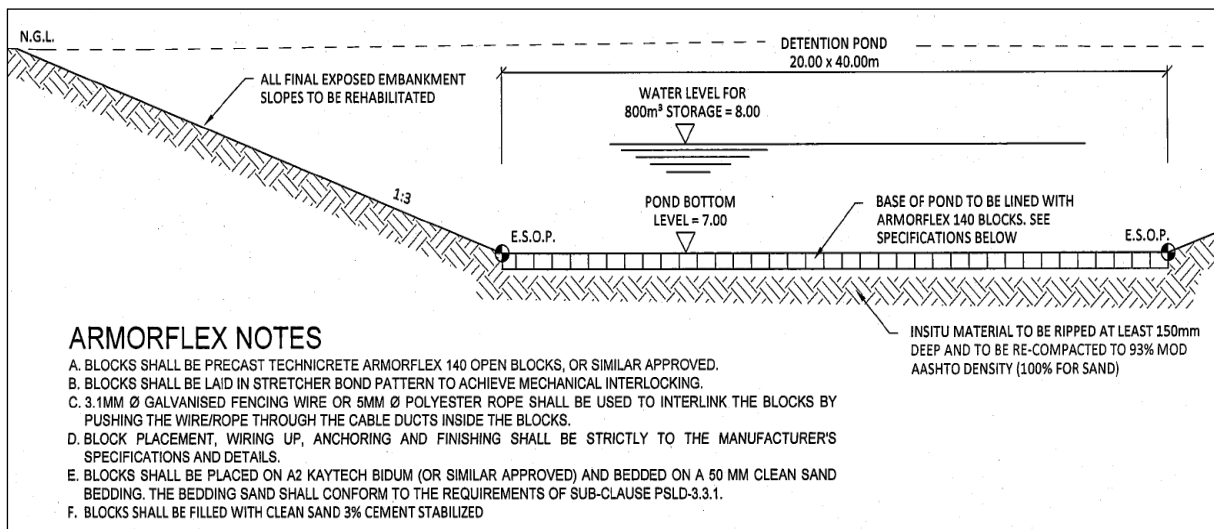

Figure 27: Detention Pond Armorflex Lined Bottom Detail (Including Armorflex Notes)
- Figure 27: Detention pond Armorflex lined bottom detail (including Armorflex notes).